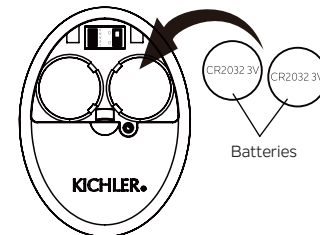

Fig. 30
**Step 5.** The buttons control the fan speed and light as follows: (Fig. 30)